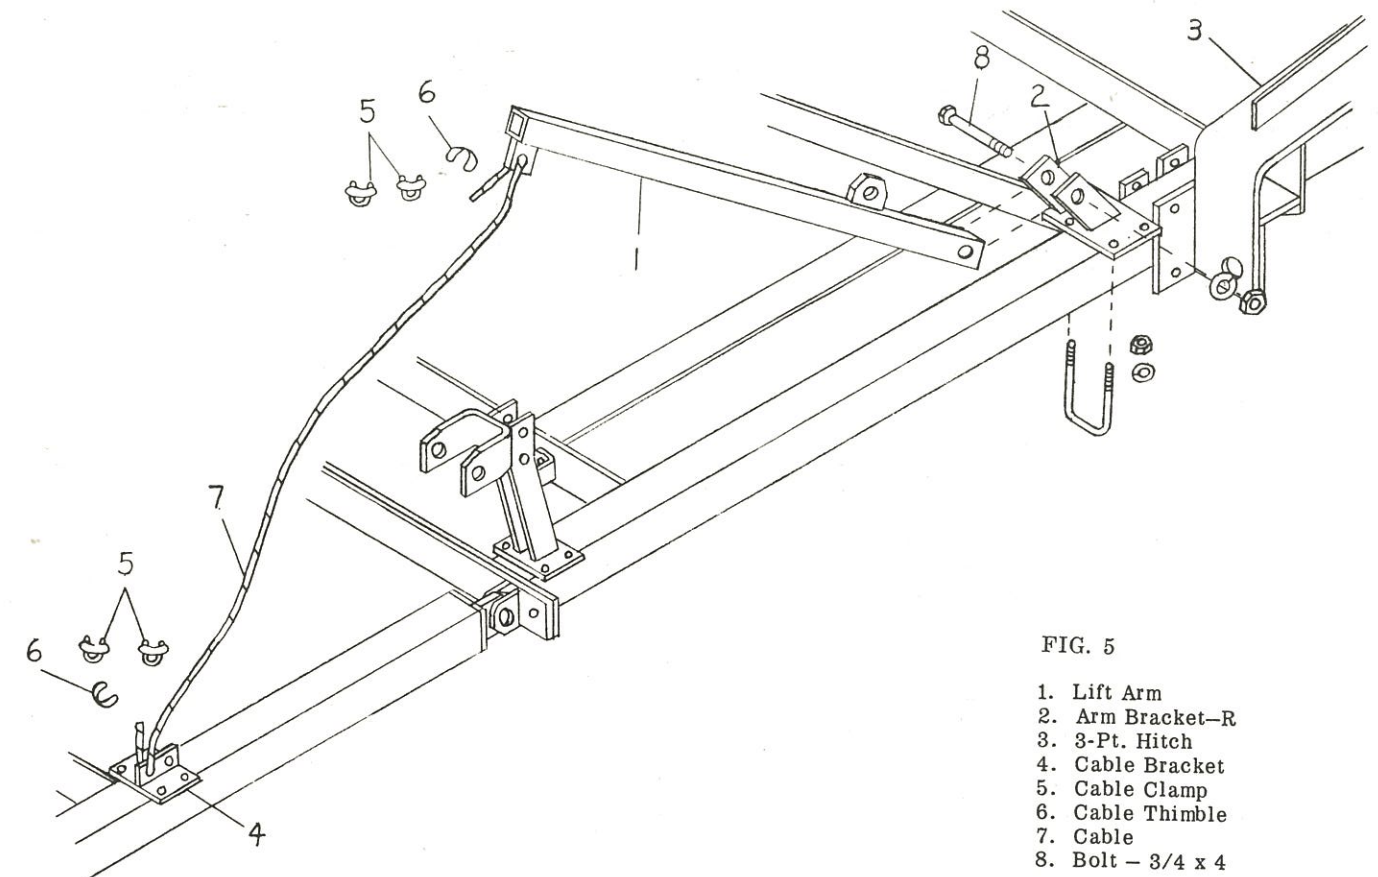

FIG. 5
A. Position an arm bracket-r on top of front frame member as shown in Fig. 5. Secure using two (2) 1/2" U-bolts, lockwashers and nuts (U-bolt set on outside of frame cross brace). Attach a lift arm to arm bracket as shown in Fig. 5. Secure with a 3/4" x 4" bolt, lockwasher and nut. Insert one end of cable 5/16 x 76 lg. into top lug hole on lift arm (after inserting cable thimble). Secure with two (2) cable clamps. Opposite end of cable is to be inserted into outside hole of cable bracket on wing frame. Use a cable thimble in bracket hole before securing cable with two (2) clamps. Repeat procedure on opposite side. When wing lift is used, lock wings in upright position using same clevis pin holding short wing cable to wing stop.